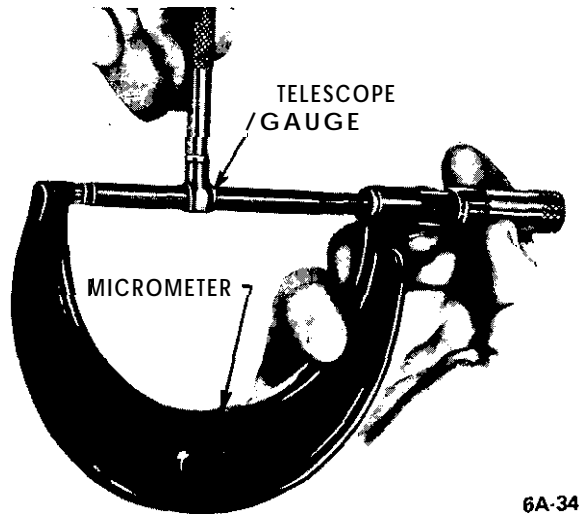

Figure 6A-34 Measuring Telescope Gage
3. Measure the piston to be installed. See Figure 6A-32. The piston must be measured at right angles to the piston pin 2-1/2" below the top of piston. The piston must be between .0008" and .0012" smaller than the cylinder bore.